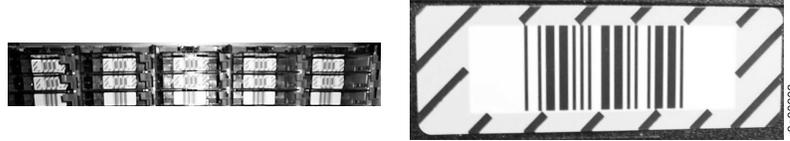

Figure 31. Black and yellow bar code label
4. Insert the cartridges into any HD slot that accepts cartridges by gently pushing the cartridges into the slot against the resistance of the constant force spring. Insert cartridges until the retention latch locks around front of the cartridge or until the slot accepts no more cartridges because it is full. For the initial bulk load on a newly installed frame, do not insert cartridges into HD slots with the black and yellow bar code labels that are shown in Figure 31 on page 85.
When you are doing a bulk load on newly installed HD frames, do not load cartridges into slots with the black and yellow label that is shown in Figure 31. These slots must be empty for the initial audit of the frame to start. The initial audit fills these slots and then they are used like any other HD slot in subsequent library operations.